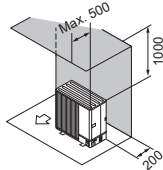

Fig. 2-7
- (2) Obstructions or closed surfaces at rear and above only (Fig. 2-7)